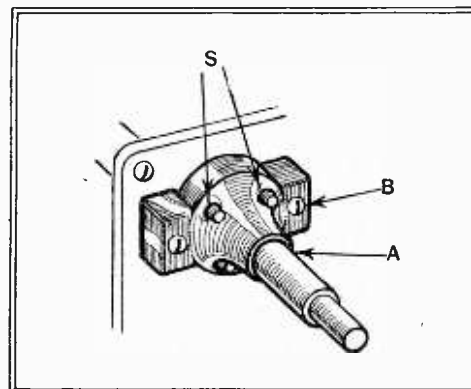

Fig. 2.—Self-contained vernier control. A = main spindle; B = mounting bolts; S = projecting screws.
(1) Lack of oil ...	Obvious.
(2) Slide sticking ...	Rub down guide with fine emery.
(3) Spring too strong	Mark pointer-setting at bottom of scale, stretch spring, then readjust pointer to mark.
(4) Pulley or bearing seized.	Apply penetrating oil and ease backwards and forwards.
(5) Vernier too slack	Adjust if possible (see below).
(6) Vernier incorrectly adjusted	Adjust mounting bolts (B in Fig. 2).
(7) Pointer fouling scale ...	Obvious.
Fig. 2 illustrates one type of self-contained vernier in fairly common use, bolted directly on to a gang condenser. The mechanism is entirely enclosed, the only adjustment being by four screws
A *rough* drive, if not due to any of the previously mentioned faults, may often be cured by putting a spot of oil on the main spindle (A in Fig. 2) so that it runs in between it and the hollow aluminium housing.